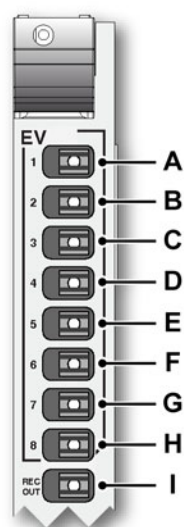

Figure 12.29: GN4070 Binary marker HV card (detail)
The binary marker HV modules come with nine (9) fiber optic connectors (see Figure 12.29) and two (2) 26-pin connectors. The lowest fiber optic connector provides the recording status output. The fiber optic input connectors provide the marker (event) channels 1 through 8. The non-isolated marker inputs provide the marker (event) channels labeled 33 through 64.